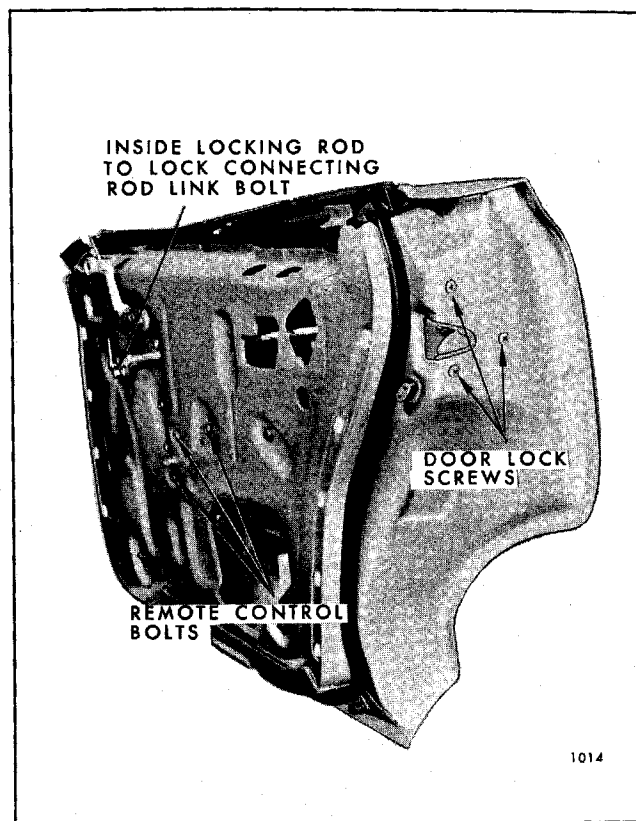

Fig. 7-121—Rear Door Lock Removal - Hardtop Style
4. Remove lock attaching screws (Fig. 7-121 hardtop style shown, closed styles similar).
4. Remove door lock attaching screws (Fig. 7-121) and remove lock from door.